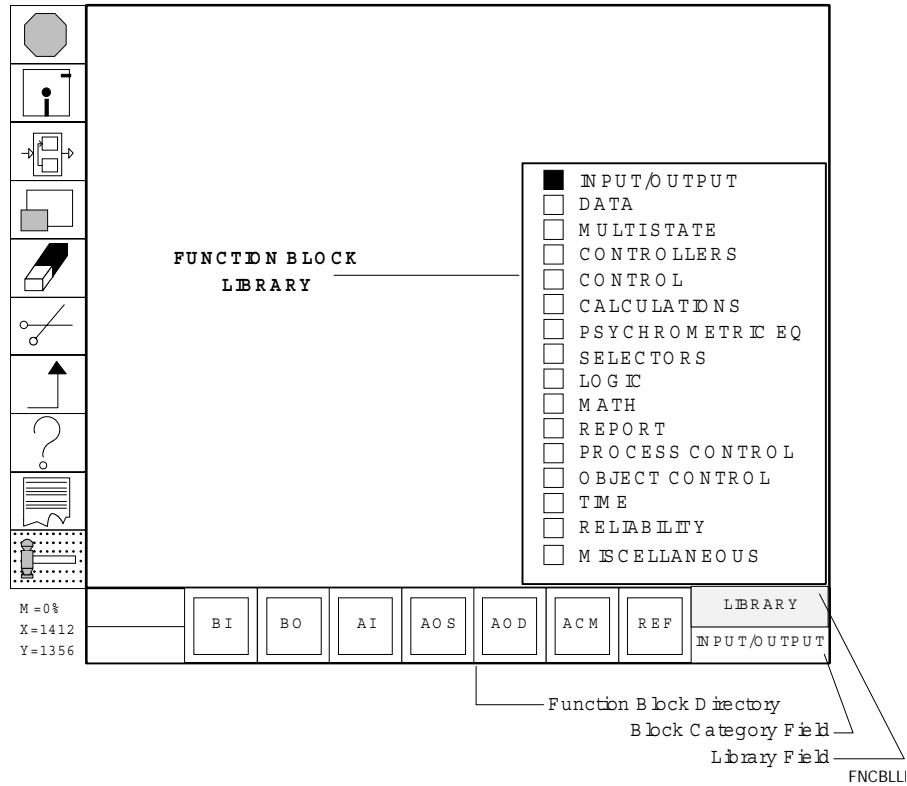

Figure 56: Function Block Library
1. Click left on the LIBRARY field (Figure 56). The function block library appears on the right side of the work area.